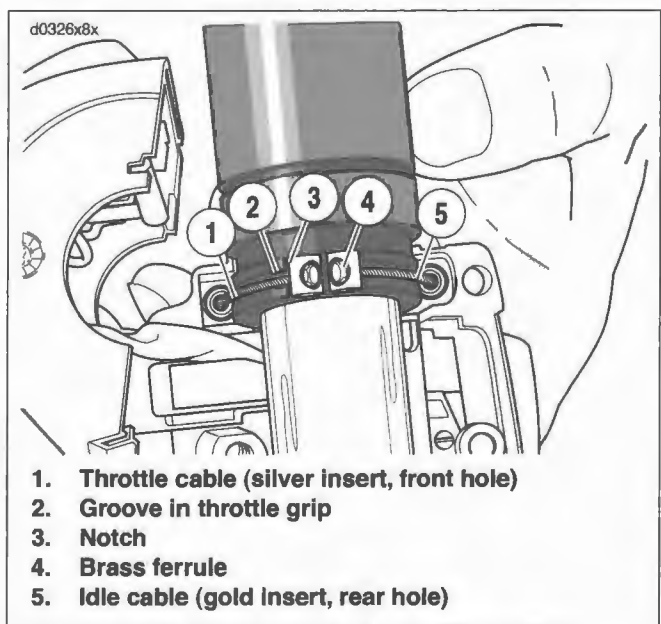

Figure 2-113. Throttle Cable Attachment
5. See Figure 2-113. Pull the cables from the housing by placing a drop of oil on the retaining ring that holds the cable in the housing, then firmly pull the bent tubing portion of the cable out of the housing using a rocking motion.
2. See Figure 2-113. Attach the control cable assemblies to the lower housing.